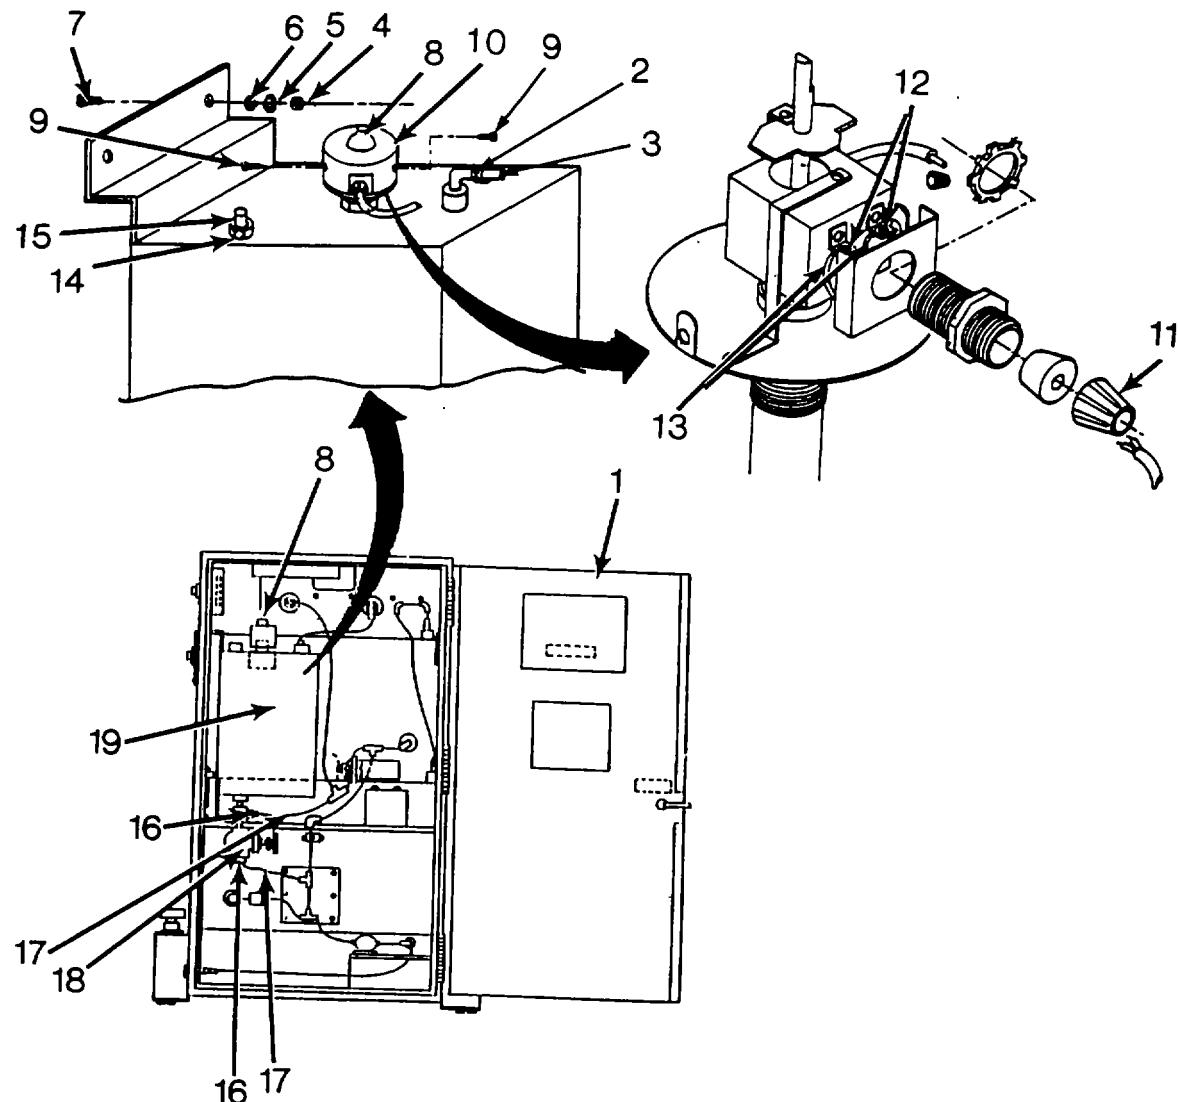

Figure 4-24. Replace Water Heater
- (6) Solder wires (4) and remove tags.
- (7) Install fuse (1) and close rear door (3).
- (8) Turn on power and test operation.
- h. Repair by replacing Water Heater. (Figure 4-24.)
- (1) Drain fresh water tank. Refer to paragraph 2-14.
- (2) Open rear door (1).
- (3) Remove clamp (2) and hose (3).
- (4) Remove nuts (4), lockwashers (5), flat washers (6), and bolts (7).
- (5) Pull temperature indicator knob (8) off.
- (6) Loosen two screws (9) and remove heater cover (10).
- (7) Loosen bracket (11), loosen screws (12), and disconnect wires (13).
- (8) Loosen nut (14) and remove temperature probe (15).